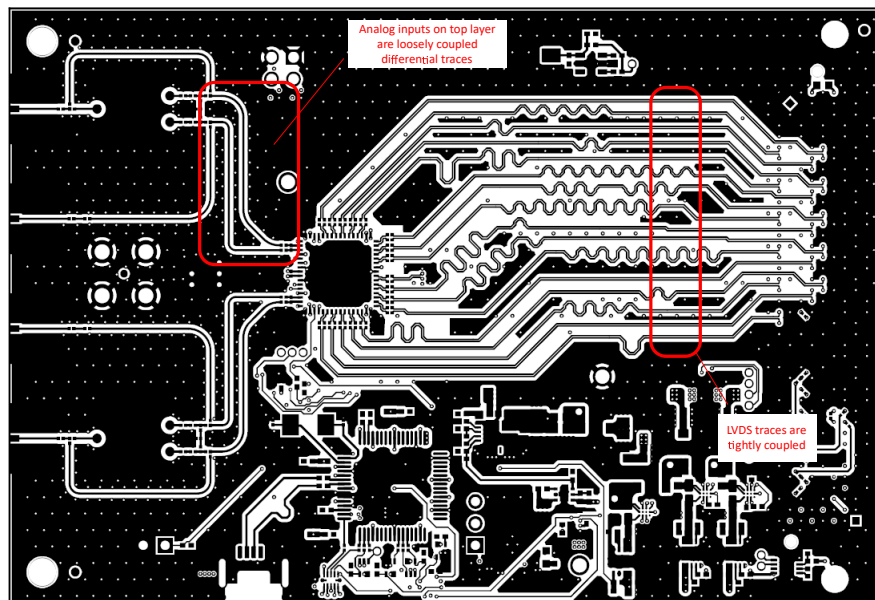

Figure 9-11. Layout example: top layer of ADC366x EVM
- The input signal traces are routed as loosely coupled, differential signals on the top layer avoiding vias. Figure 9-11 shows the layout example of the top layer.